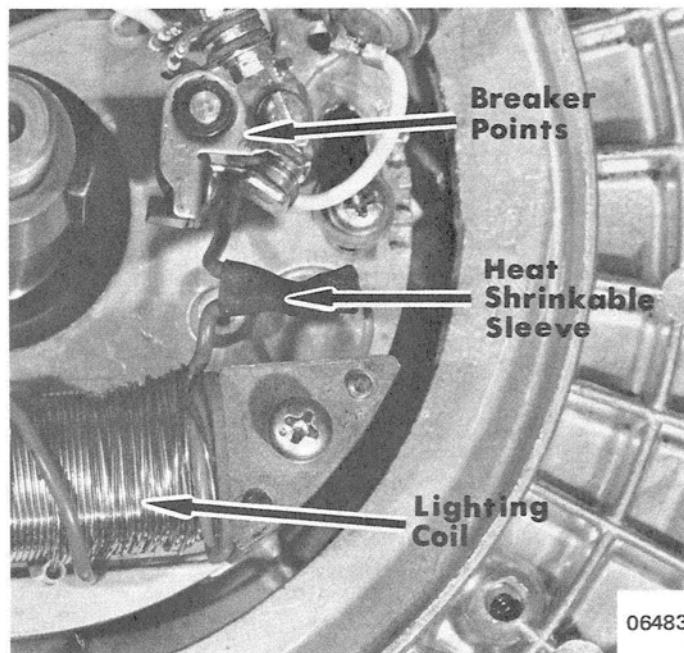

Figure 3. Sleeve Installed on Splice
2. Cut yellow (2) lighting coil wires as close to lighting coil as possible and remove coil.
3. Solder yellow leads from new lighting coil to yellow leads from harness connector with resin flux solder and protect with heat shrinkable sleeve or friction tape. (Figure 3)